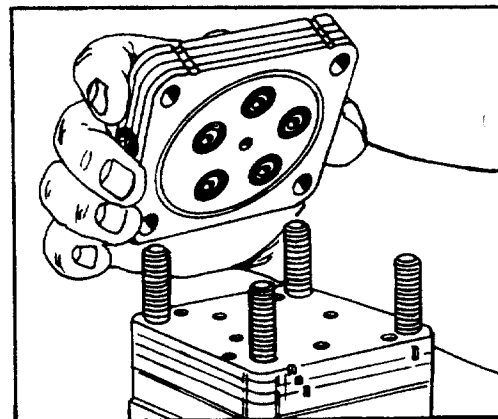
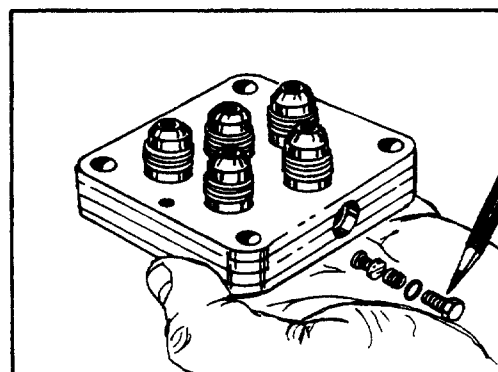

FIGURE 6.
FIGURE 7.
4. Grasp the port cover (2) assembly (four plates bonded together) and lift it from the unit. Discard the four or five O-rings (4) and seal ring (3). See figure 6.
- 4A. **CAUTION:** On some units the port cover (2) and port manifold (8) are brazed together as an integral component and **cannot be separated**, negating the requirement of a seal ring (3) and any O-rings (4) sandwiched between them. Be prepared to catch the three springs (9) which may become disengaged from this integral component (2)/(8) as it is removed from the assembly.
5. If included, remove the loosened plug (6) and O-ring (7) assembly from the port cover. Be ready to catch the steel check ball (5) as it falls from its cavity. Discard O-ring (7). See figure 7.